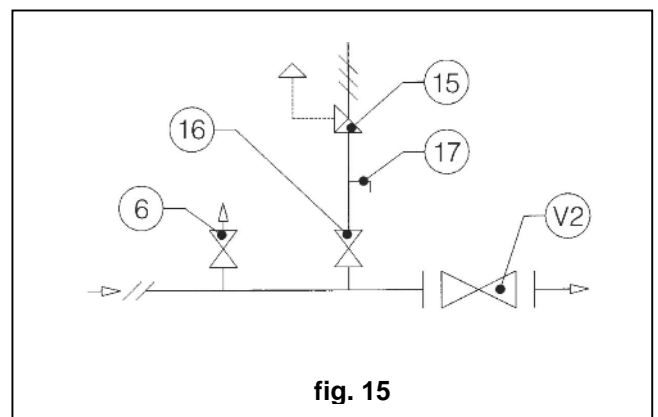

fig. 15
4.1.2 INSTALLATION WITH ON/OFF VALVE (fig. 15)
These characteristics are recalled by the symbols on the specification plates applied to each apparatus (fig. 15).